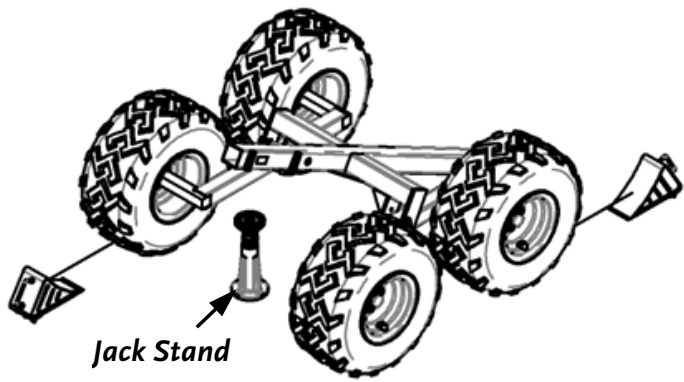

Figure 11
7. Place a Jack Stand under the front of the Main Frame, which should naturally be tipped backwards (**Figure 11**). Also place one wheel chock in front of one of the Front Wheels and one wheel chock behind one of the Rear Wheels to ensure the Trailer will not roll on you during assembly.